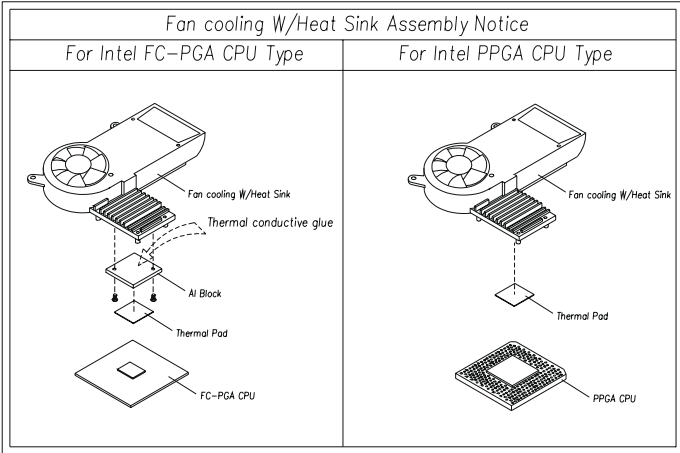

Figure 2.2: Cooling fan w/ heatsink installation
The PPC-103's CPU (Central Processing Unit) can be upgraded to improve system performance. The PPC-103 provide one 370 socket. The heat sink assembly which comes with the machine must be installed to prevent overheating. If the CPU is type FC-PGA, the CPU metal plate which comes in the accessory box must be installed on the top of the CPU as shown in Figure 2-2.
7. If the CPU to be installed is Type FC-PGA. A CPU metal plate must be installed. First apply a even thickness of the silicone heat sink paste on the top of the CPU. The CPU metal top plate is then placed on the top of the paste (Figure 2-2).